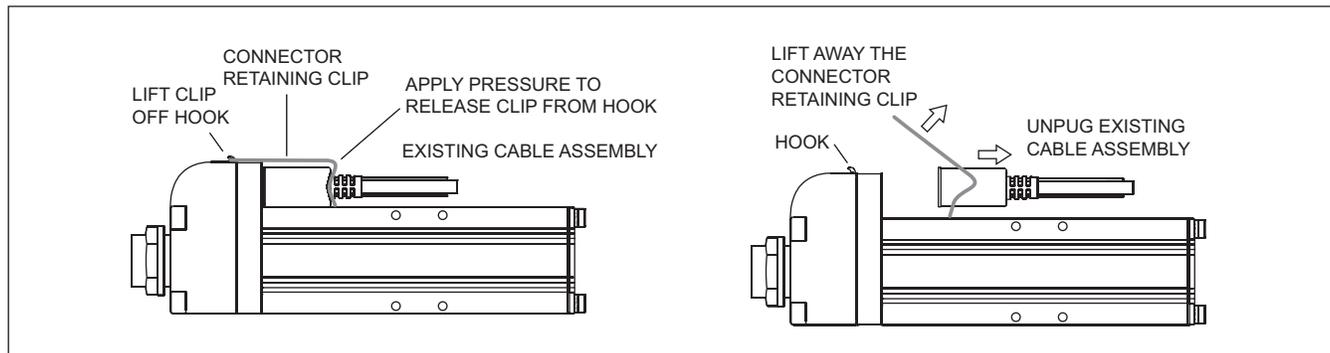

Figure 3.1 (left) Removing the retaining clip and (right) removing the cable assembly.
- Release the D-type connector retaining clip as shown in Figure 3.1.